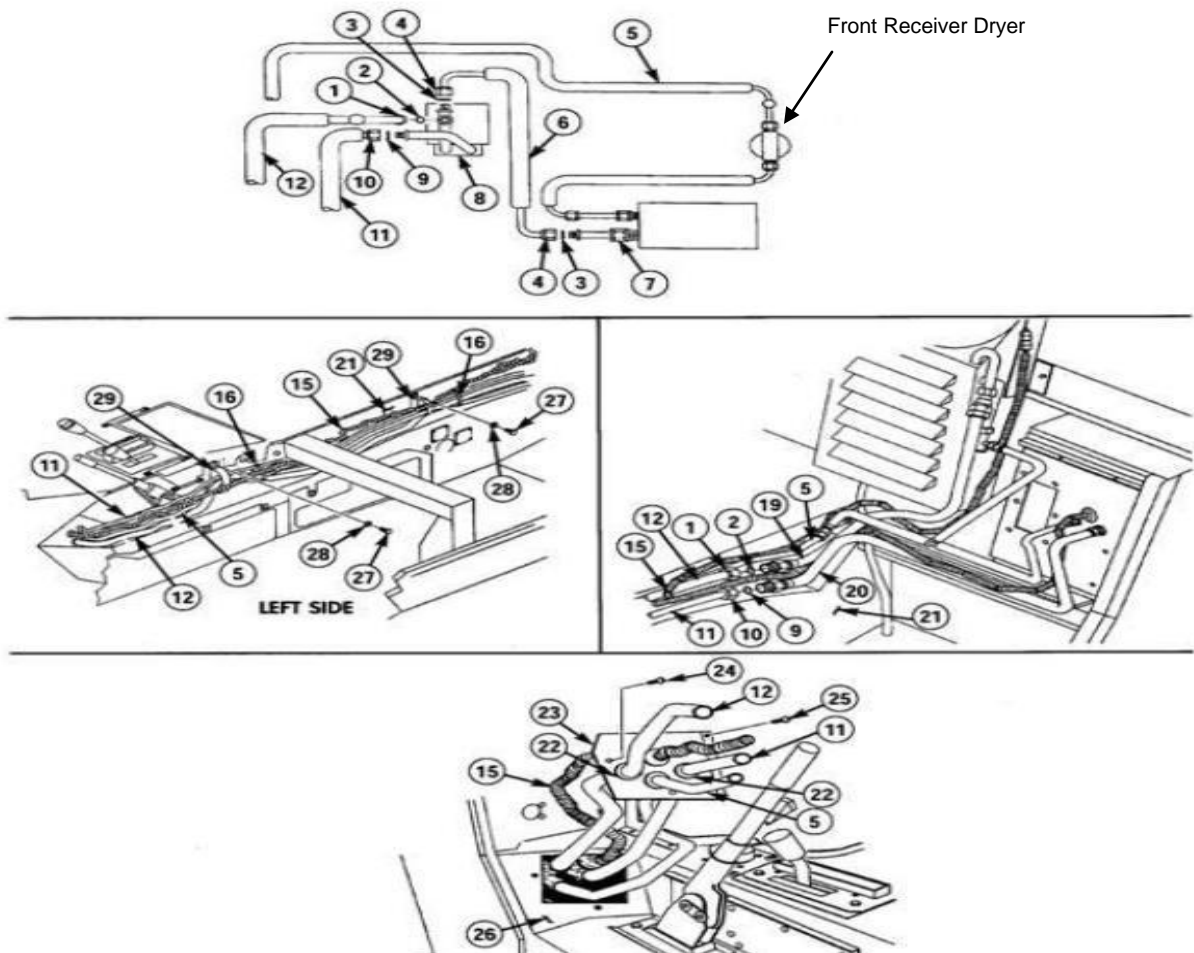

Figure 59
dd Air Conditioner Compressor Hose Assembly Maintenance. Refer to TM 9-2320-387-24-2, Chapter 25, Task Para 25-20.1, Page 25-56.2 and **Figure 59** contained in these instructions.
(1) Lubricate O-ring, with refrigerant oil, that is on Hose Assembly 20-02416 (11) and install.
(2) Connect hose assembly 20-02417 (5) to compressor manifold (8) and tighten nut (10) to 18 ft-lb (24 N-m), as shown in **Figure 59**.
(3) Lubricate O-ring with refrigerant oil that is on Hose Assembly 20-02415 (12) and install, as shown in **Figure 59**.
(4) Install Front Receiver Dryer 07-00260, as shown in **Figure 59**.
(6) Continue routing hose (12) and hose assembly (11) under vehicle and through the Central Tire Inflation System (CTIS) cover grommets (22) as shown in **Figure 59**.
(7) Pull hose (12), hose assemblies (11) and (5), and the A/C wiring harness (15) rearward and slide CTIS cover (23) forward until foil insulation (28) contacts CTIS cover (23). Foil insulation (29) on A/C wiring harness (15) should extend through CTIS cover (23) approximately 1 inch (2.5 cm) as shown in **Figure 59**.
(8) Install CTIS cover (23) on vehicle body (27) with two screws (25) and screw (26) as shown in **Figure 59**.
(9) Continue routing hose (12) and hose assembly (11) along left side tunnel (22) as shown in **Figure 59**.
(10) Lubricate O-ring, with refrigerant oil, and install Hose Assembly 20-02416 as shown in **Figure 59**.
(11) Connect Hose Assembly 20-02416 to the Rear Discharge Tube (21) and tighten nut (10) to 18 ft-lb (24 N·M) as shown in **Figure 59**.
(12) Lubricate O-ring (2) with refrigerant oil, and install on Hose Assembly 20-02415.
(13) Connect hose (12) to rear suction tube (20) and tighten nut (1) to 24 ft-lb (33 N·M) as shown in **Figure 59**.